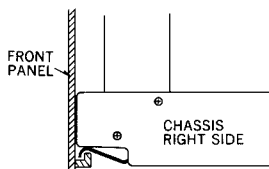
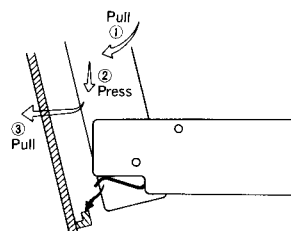

Fig. 4
Fig. 5
7. Remove the front panel from the chassis. (Fig. 4 to Fig. 5).